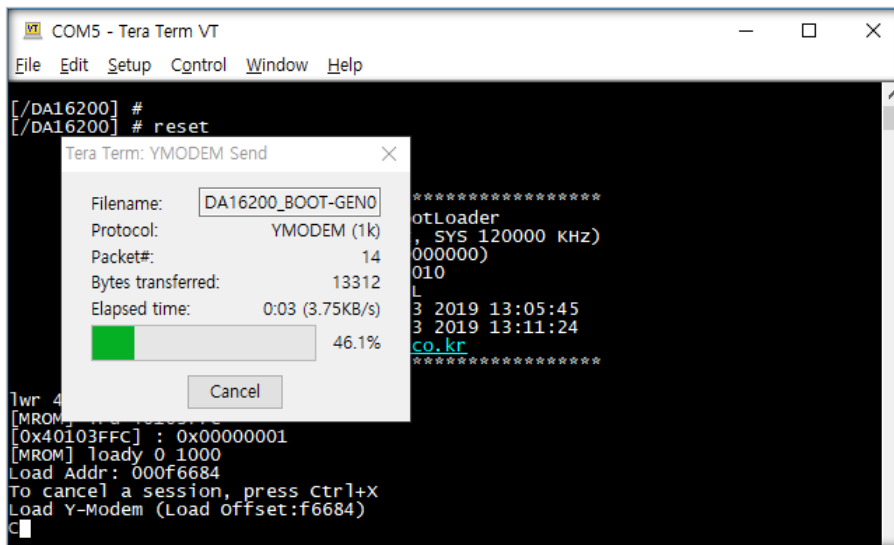

Figure 12. Programming FBOOT image
3. After opening the macro file, the FBOOT firmware image is programmed as shown in Figure 12.